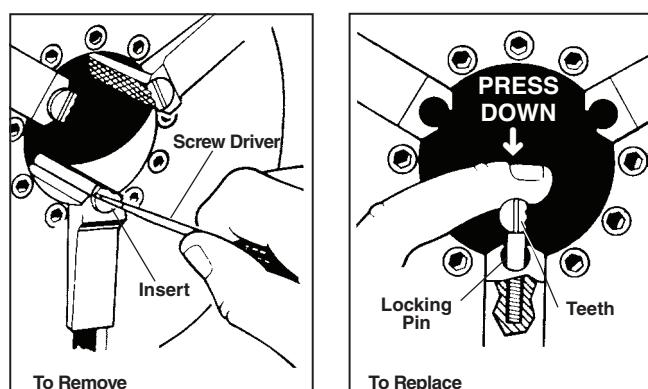

Figure 31 – Replacing Jaw Inserts
1. Place screwdriver in insert slot and turn 90 degrees in either direction. Remove insert (Figure 31).
2. Place insert sideways on locking pin and press down as far as possible (*Figure 31*).